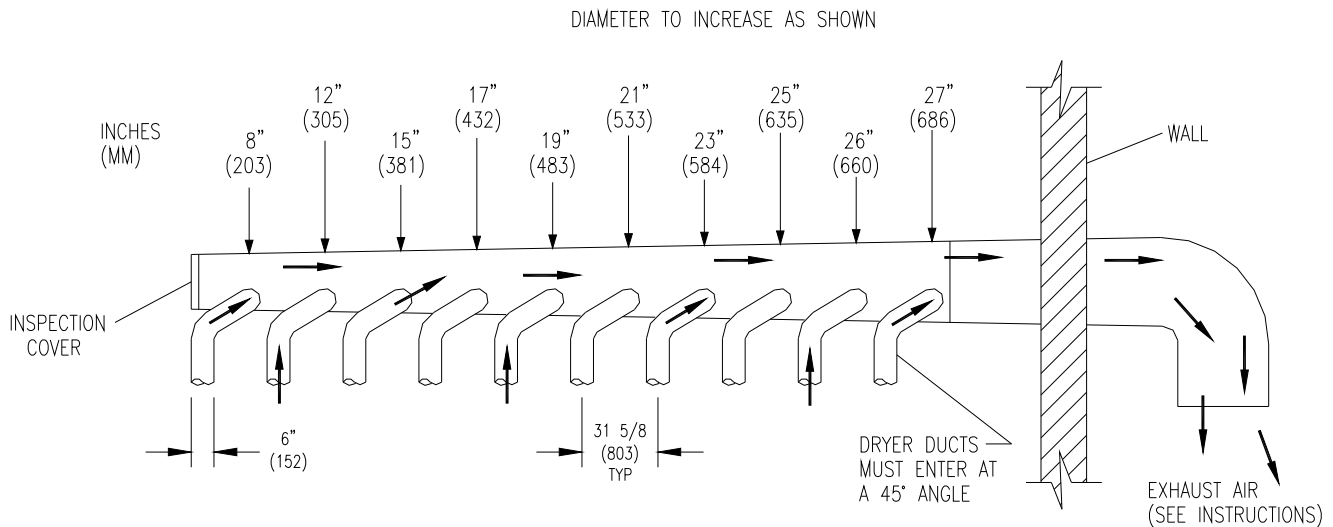

FIGURE 3- Dryer Exhausting Using A Main Discharge Duct.
6. EXHAUST INSTALLATION. (Refer to Figure 3 at the end of section 6.) The exhaust duct connection near the top of the dryer will accept a 152 mm (6 in.) round duct. Exhausting of the dryer(s) should be planned and constructed so that no air restrictions occur. Any restriction due to pipe size or type of installation can cause slow drying time, excessive heat, and lint in the room.
Installation of several dryers, where a main discharge duct is necessary, will need the following considerations for installation (see Figure 3). Individual ducts from the dryers into the main discharge duct should be at a 45-degree angle in the direction of discharge airflow.
NOTE: Never install the individual ducts at a right angle into the main discharge duct. The individual ducts from the dryers can enter at the sides or bottom of the main discharge duct. Figure 3 indicates the various round main duct diameters to use with the individual dryer ducts. The main duct can be rectangular or round, provided adequate airflow is maintained. For each individual dryer, the total exhausting (main discharge duct plus duct outlet from the dryer) should not exceed the equivalent of 20' (6 m) and two elbows. The diameter of the main discharge duct, at the last dryer, must be maintained to exhaust end.